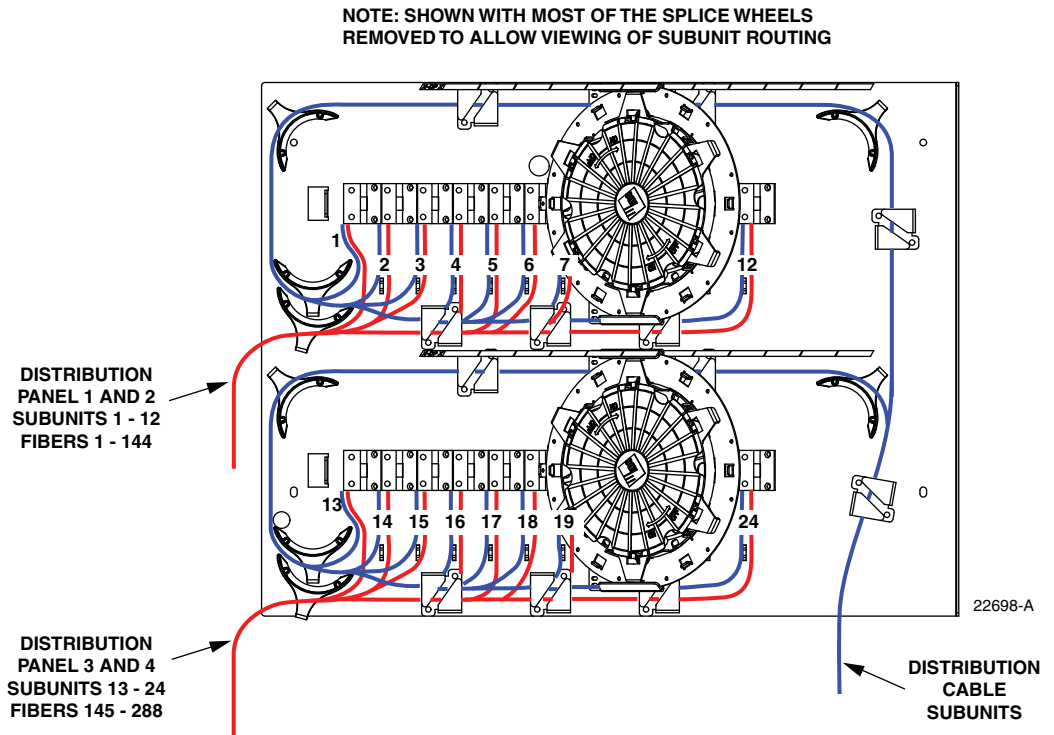

Figure 35. Distribution Cable Subunit Routing to Splice Wheels
- Beginning at the distribution cable fiber breakout point, route each distribution cable subunit to the tie point below the appropriate splice wheel as shown in Figure 35.